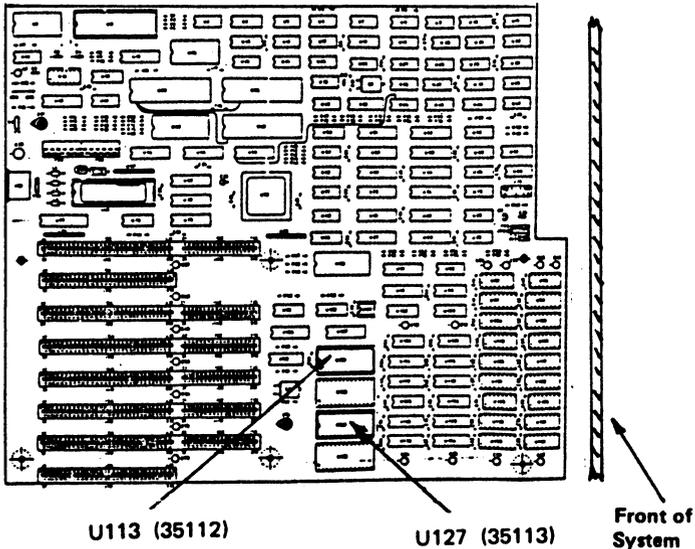

Figure 8
9. To ensure the correct operation of this drive it may be necessary to change the firmware in the PC. To check if this is necessary on your PC, look at the labels on the two integrated circuits (ICs) shown in Figure 8. If these labels have numbers lower than 35112 and 35113 then the ICs must be replaced with those supplied in this kit
The IC with the number 35112 must be installed in the socket marked U113 the board. The IC with the number 35113 must be installed into the socket U127, see Figure 8.